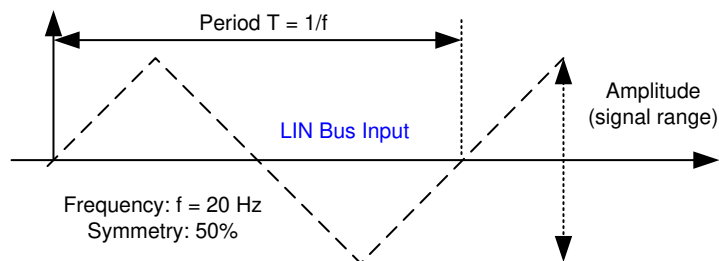

图 8-3. LIN Bus Input Signal
| $V_{BUSdom}$                       | Low level input voltage (ISO/DIS 17987 Param 17) (3)           | LIN dominant (including LIN dominant for wake up) See <a href="#">Figure 8-4</a> , <a href="#">Figure 8-3</a>                                                                                                         |       |     | 0.4  | $V_{SUP}$     |
| $V_{BUSrec}$                       | High level input voltage (ISO/DIS 17987 Param 18) (3)          | LIN recessive See <a href="#">Figure 8-4</a> , <a href="#">Figure 8-3</a>                                                                                                                                             | 0.6   |     |      | $V_{SUP}$     |
| $V_{BUS\_CNT}$      | Receiver center threshold (ISO/DIS 17987 Param 19)      | $V_{BUS\_CNT} = (V_{BUSrec} + V_{BUSdom})/2$ See <a href="#">Figure 8-4</a> , <a href="#">Figure 8-3</a> | 0.475 | 0.5 | 0.525 | $V_{SUP}$     |
| $V_{HYS}$           | Hysteresis voltage (ISO/DIS 17987 Param 20)             | $V_{HYS} = (V_{BUSrec} - V_{BUSdom})$ See <a href="#">Figure 8-4</a> , <a href="#">Figure 8-3</a>        |       |     | 0.175 | $V_{SUP}$     |
| $V_{HYS}$           | Hysteresis voltage (SAE J2602)                          | $V_{HYS} = V_{IH} - V_{IL}$ See <a href="#">Figure 8-4</a> , <a href="#">Figure 8-3</a>                  | 0.07  |     | 0.175 | $V_{SUP}$     |